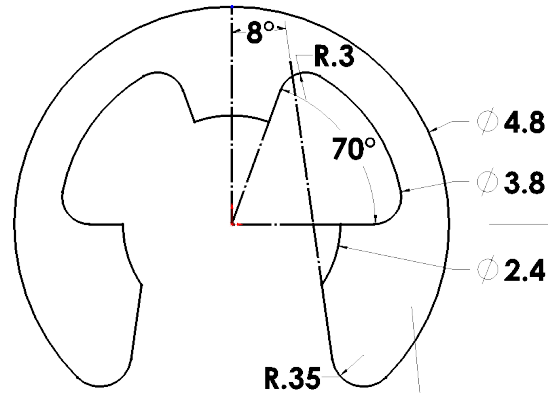

Fig. 18
Step 3. Click **Mirror Entities**  **Mirror Entities** on the Sketch toolbar, **Fig. 18**.